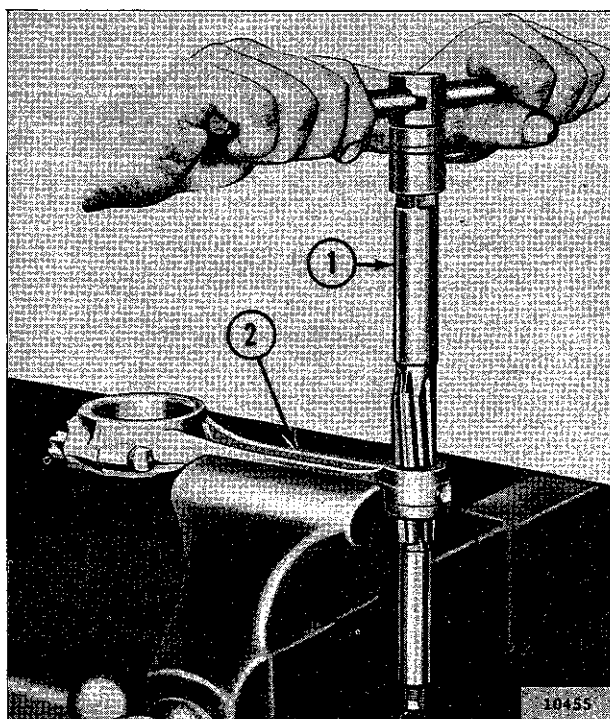

FIG. 38—REAMING CONNECTING ROD BUSHING
c. After checking the piston pin fit in the piston, check its fit in the connecting rod bushing. The pin should just slip through the bushing under its own weight. If the pin is too tight, ream the inside diameter of the bushing with Piston Pin Reamer DD-82-2 as shown in Fig. 38 to .8593" to .8595" [21,826 a 21,831 mm.] for a standard pin or, if an oversize pin is used, ream the bushing .003" to .005" [0,0762 a 0,127 mm.] oversize. If the pin is too loose, install a new bushing and ream to proper size. The new bushing must be installed with the oil hole aligned with the oil hole in the connecting rod. The bushing must protrude  $\frac{1}{64}$ " [0,396 mm.] on